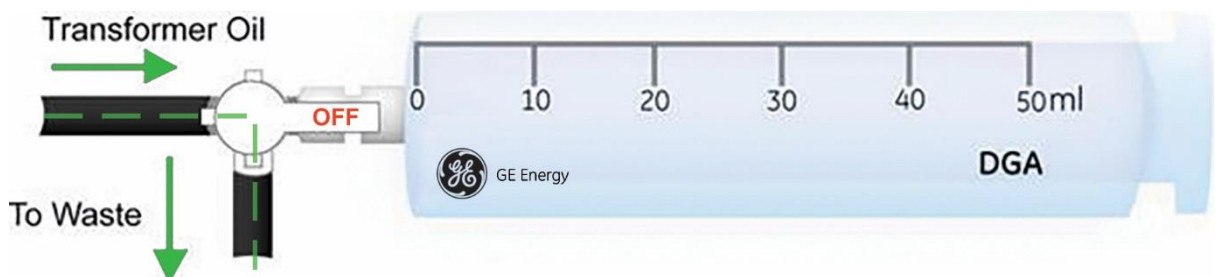

Figure 6-1: Oil flows to waste container
2. Turn the valve in the equipment sampling line and the valve on the syringe to allow equipment oil to flow out to a waste container from the syringe valve as shown in Figure 6-1. Allow at least 1 litre of oil to flow into a waste container.